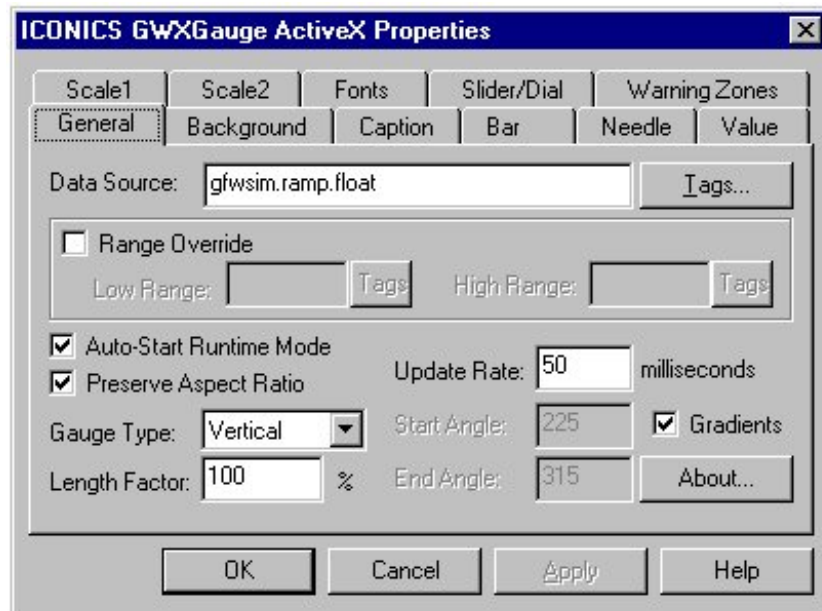

Figure 15-4: GWXGauge ActiveX Properties Dialog Box: General Tab
1. Double-click on the GWXGauge ActiveX control. The GWXGauge ActiveX Properties dialog box appears (Figure 15-4).